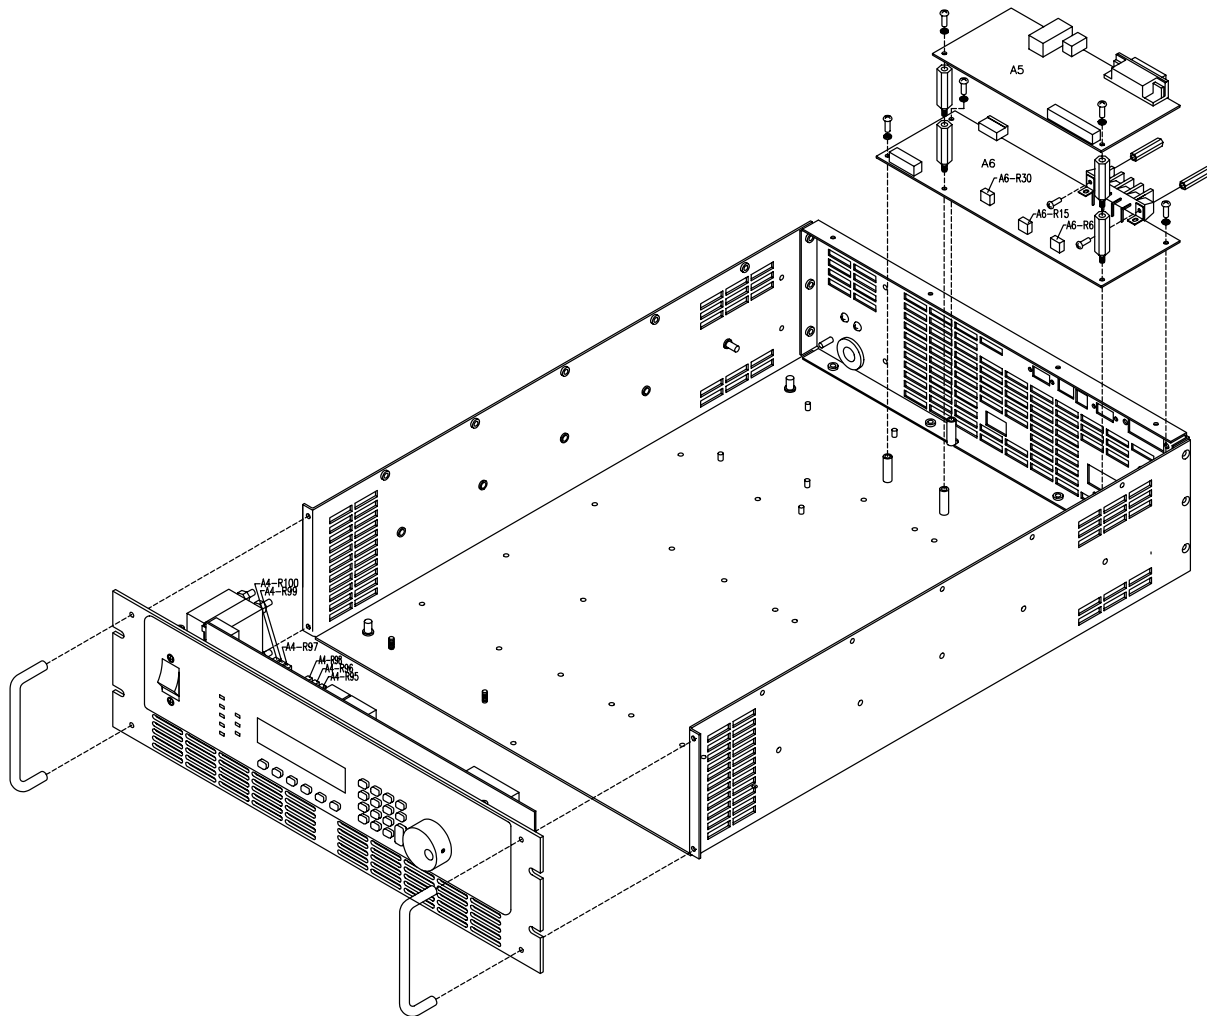

Figure 6-1: Internal adjustment locations.
4. Close the power source output relay and adjust R97 on the Controller (A4) for zero  $\pm 5$  mV. See Figure 6-1 for pot location on the controller board.
2. Program AC mode, 0.0 volts AC. Adjust R95 on the controller (A4) for the lowest AC output. See Figure 6-1 for pot location on the controller board.